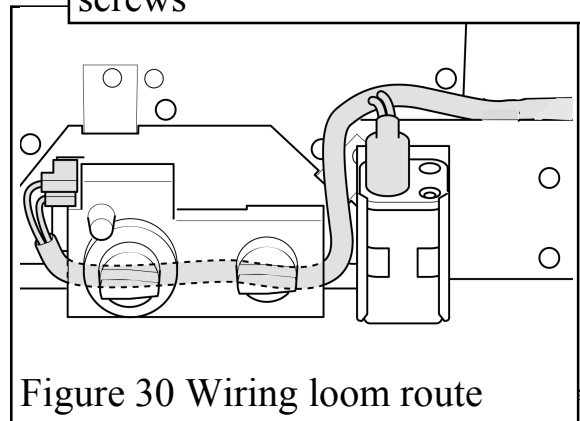

Figure 30 Wiring loom route
- When replacing, make sure that the wiring loom runs above and to the left of the battery box and behind the control valve. See figure 30. The motor lead connectors are two different sizes. They will only fit to the correct motor terminals.
- When replacing, make sure that the wiring loom runs above and down to the left of the battery box and behind the control valve. See figure 30.